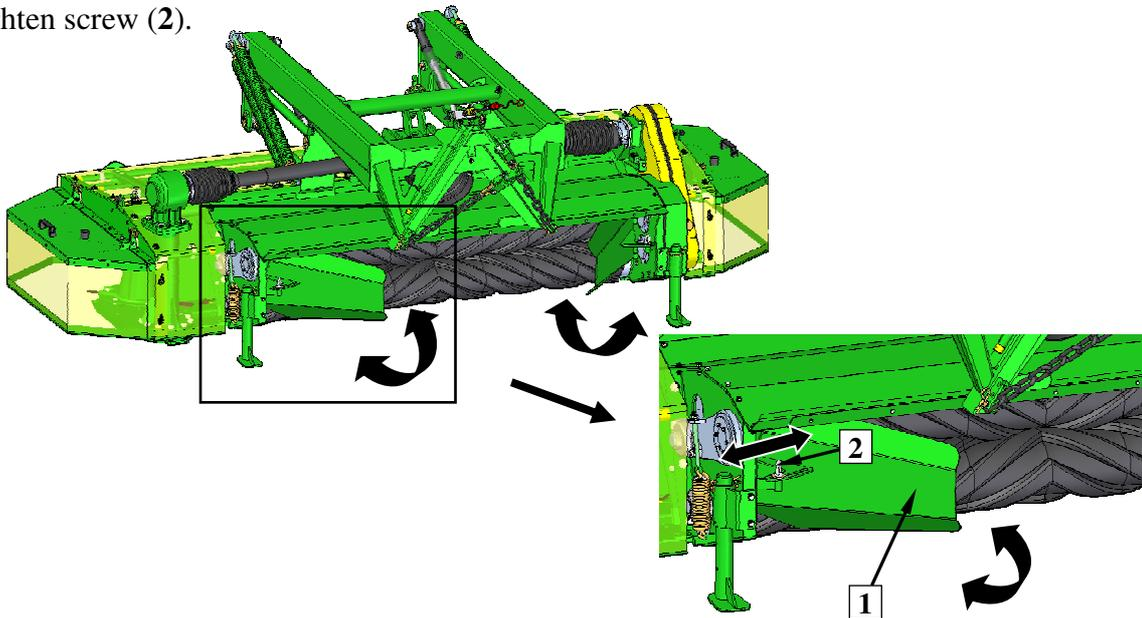

Fig. 22. Adjustment of swath guides: 1- swath guide, 2 - adjustment screw
In order to set swath width, adjustment of swath guides (1) should be performed (Fig. 22) (for: KDF W):
- loosen eye screw (2) of the swath guide,
- set the swath guide (1) as needed,
- tighten screw (2).